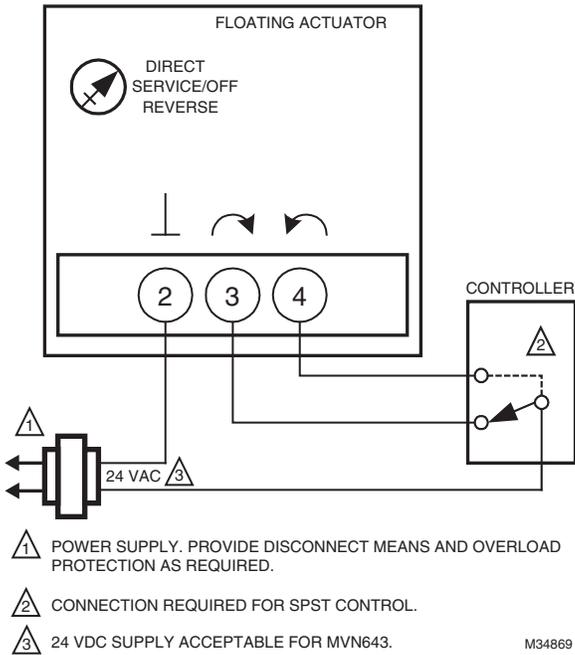

Fig. 7. MN6105 with On/Off Control.
2. Wire actuator using Figures 7 through 20 for the application required.